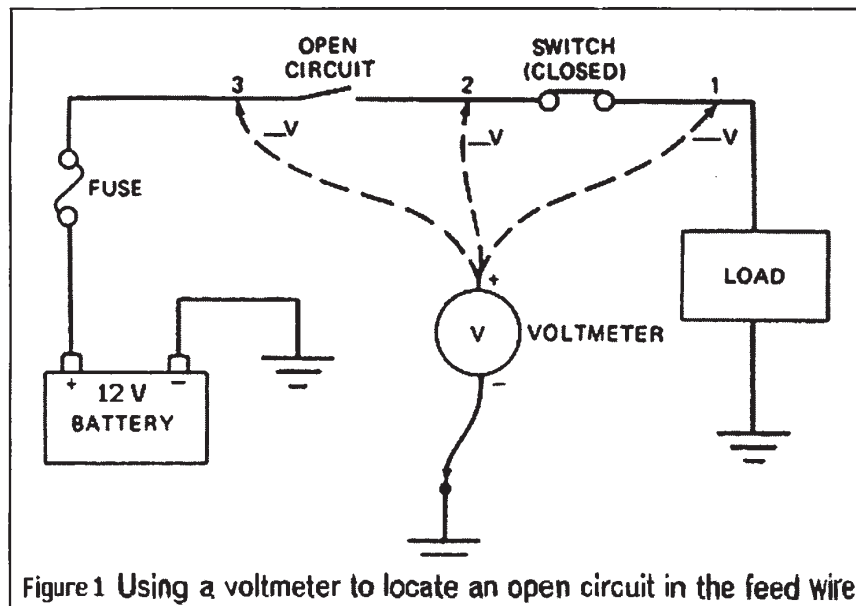

Fig. No. 1
- 1) Fig. No. 1 shows a testing of feed wire with open circuit defect. Redraw the figure and write voltage that will be indicated by voltmeter at positions 1, 2 and 3.